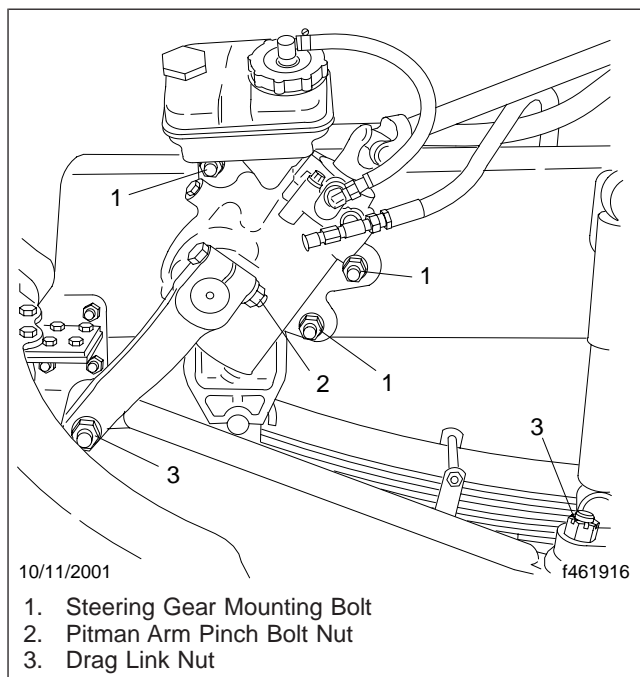

Fig. 11.13, Steering Gear Fasteners
5. Inspect the steering components. See Fig. 11.13.